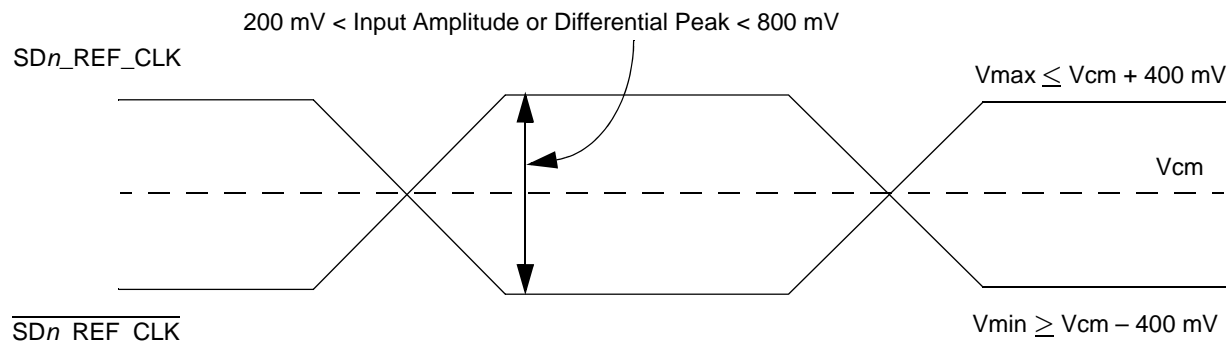

Figure 46. Differential Reference Clock Input DC Requirements (External AC-Coupled)
- For **external AC-coupled** connection, there is no common mode voltage requirement for the clock driver. Because the external AC-coupling capacitor blocks the DC level, the clock driver and the SerDes reference clock receiver operate in different command mode voltages. The SerDes reference clock receiver in this connection scheme has its common mode voltage set to SGND_SRDSn. Each signal wire of the differential inputs is allowed to swing below and above the command mode voltage (SGND_SRDSn). Figure 46 shows the SerDes reference clock input requirement for AC-coupled connection scheme.